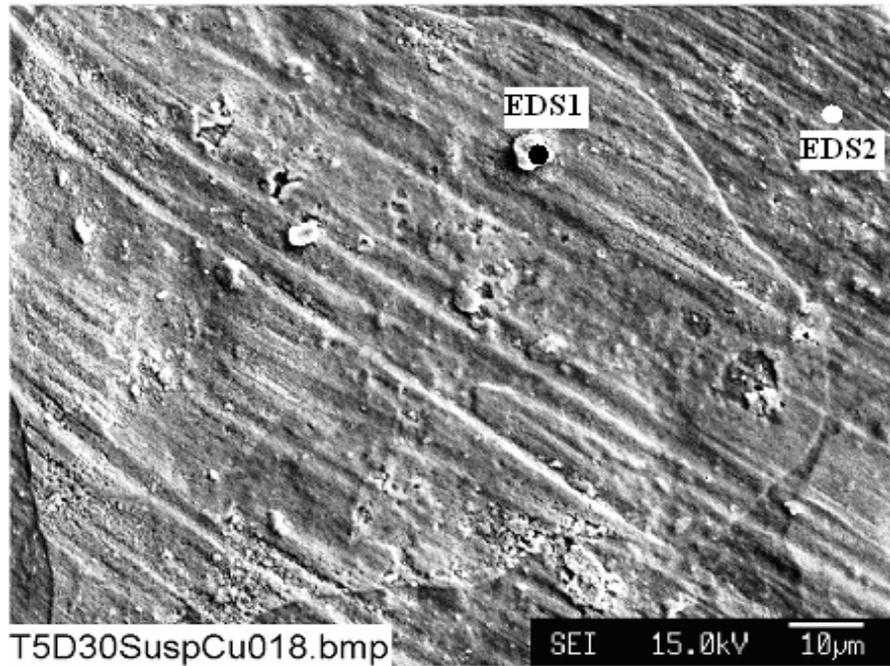
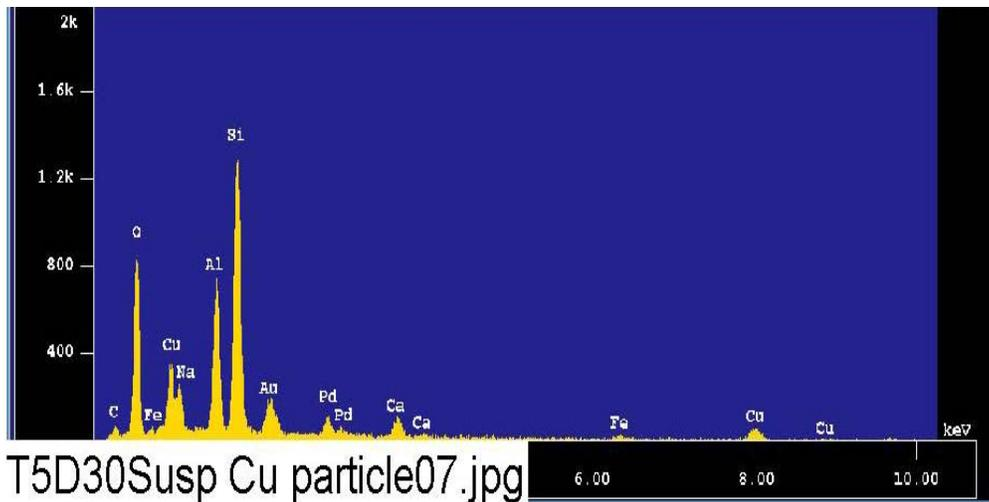
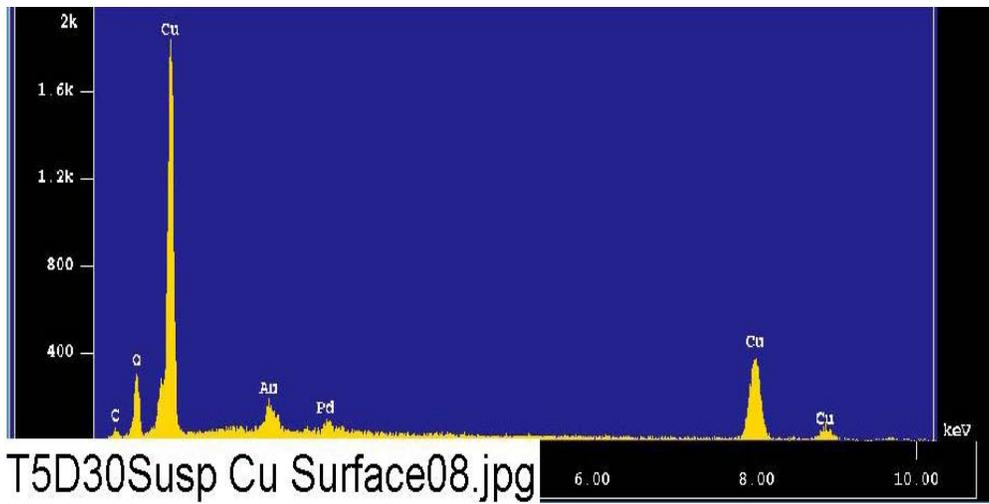

Figure E2-2. Annotated SEM image magnified 1000 times for a Test #5, Day-30 unsubmerged copper coupon sample. (T5D30SuspCu018.bmp)
Figure E2-3. EDS counting spectrum for the light particle (EDS1) on the copper coupon surface shown in Figure E2-2. (T5D30Susp Cu particle07.jpg)
Figure E2-4. EDS counting spectrum for the copper coupon surface (EDS2) shown in Figure E2-2. (T5D30Susp Cu Surface08.jpg)
- Figure E2-2. Annotated SEM image magnified 1000 times for a Test #5, Day-30 unsubmerged copper coupon sample. (T5D30SuspCu018.bmp).....E2-5
- Figure E2-3. EDS counting spectrum for the light particle (EDS1) on the copper coupon surface shown in Figure E2-2. (T5D30Susp Cu particle07.jpg).....E2-6
- Figure E2-4. EDS counting spectrum for the copper coupon surface (EDS2) shown in Figure E2-2. (T5D30Susp Cu Surface08.jpg).....E2-8
Table E2-1. Chemical Compositions for T5D30Susp Cu particle07.jpg, Figure E2-3.....	E2-7
Table E2-2. Chemical Compositions for T5D30Susp Cu Surface08.jpg, Figure E2-4.....	E2-9
Table E2-1. Chemical Compositions for T5D30Susp Cu particle07.jpg, Figure E2-3
Table E2-2. Chemical Compositions for T5D30Susp Cu Surface08.jpg, Figure E2-4